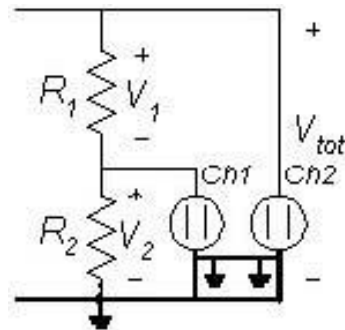
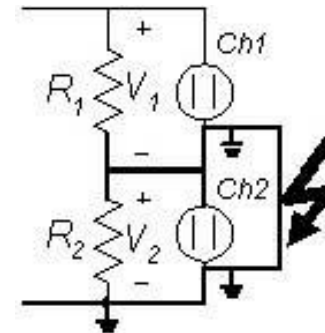
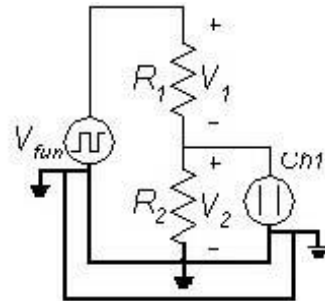
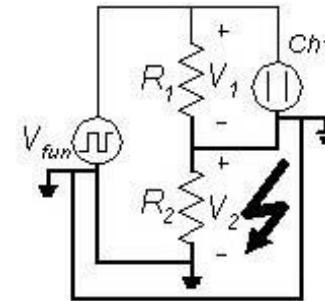

Figure 3: Correct connection, since the ground node in the oscilloscope is the same as in the circuit
Figure 4: Faulty connection, since the ground node in the oscilloscope short circuits the resistor R2 with the Ch 2 ground connection to V2
Figure 5: Correct connection, since the ground node of the oscilloscope and function generator (solid line) is the same as in the circuit (dashed-line)
Figure 6: Faulty connection, since the ground node of the oscilloscope and the function generator is connected to V2 by the Ch 1 ground connection
1. You can only measure voltage levels with reference to a common ground in the circuit, (as shown in Figure 3), i.e. you **can** only measure the voltages on the nodes as defined for the node voltage method referenced to ground, but you **cannot** directly measure the voltage between any two nodes, (as shown in Figure 4).
- If you connect a function generator or a second oscilloscope to your circuit, you have to use the same common ground for all instruments, (as shown in Figure 5). You cannot connect the oscilloscope to a different ground as the ground of the function generator, (as shown in Figure 6).
- The connection shown in Figure 6 is the most dangerous one, because you will be involving the power supply in the fault connection that causes a large fault current. The least danger that can be caused as a consequence of this fault current is that it will trip the circuit breaker or blow a fuse, but it can also cause a greater damage such as melting the ground connection and causing damage to the scope or even to you.
If it is necessary to measure the voltage across R1 in Figure 2 to Figure 6, you have to make a 'differential measurement' and use the math functions that are provided by the oscilloscope. In order to do so, connect the oscilloscope as shown in Figure 3 and subtract the two measured voltages, i.e.  $V_I = V_{Ch2} - V_{Ch1}$ .